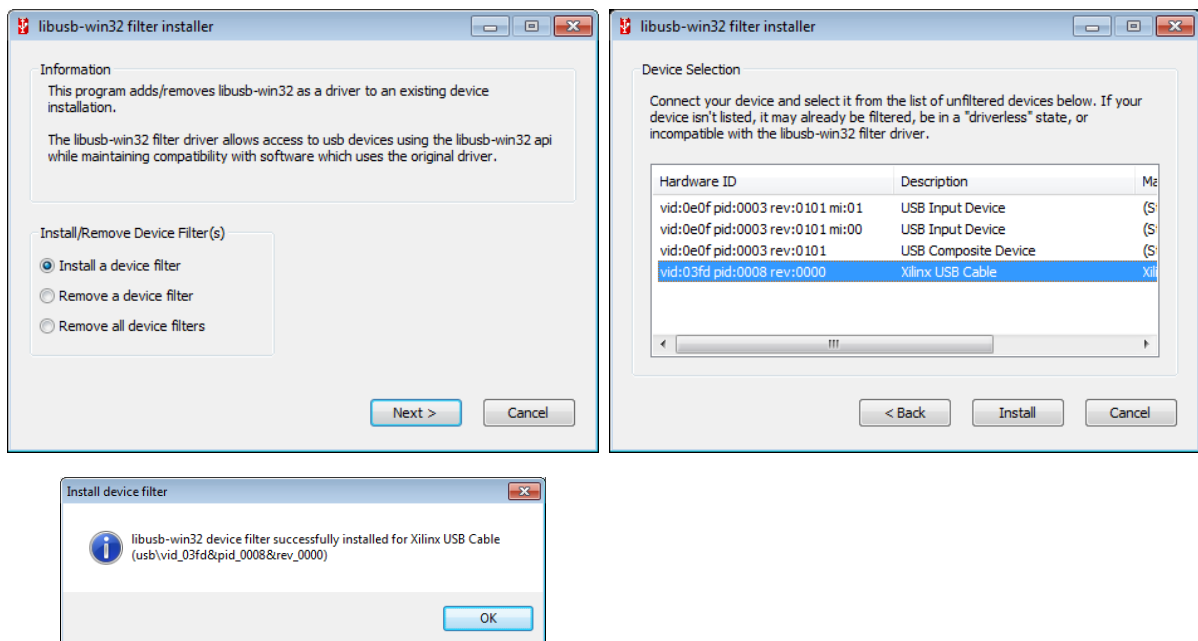

Figure 4.2.
4. At the first dialog, as seen in Figure 4.2, choose '**Install a device filter**' and press **Next**.